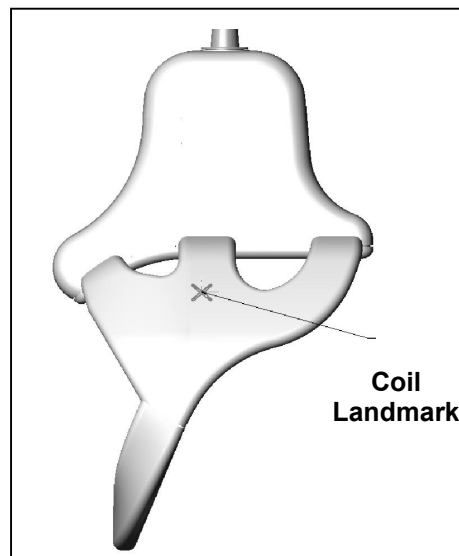

Figure 11: Coil landmark.
- Position the alignment light as shown in *Figure 11*.